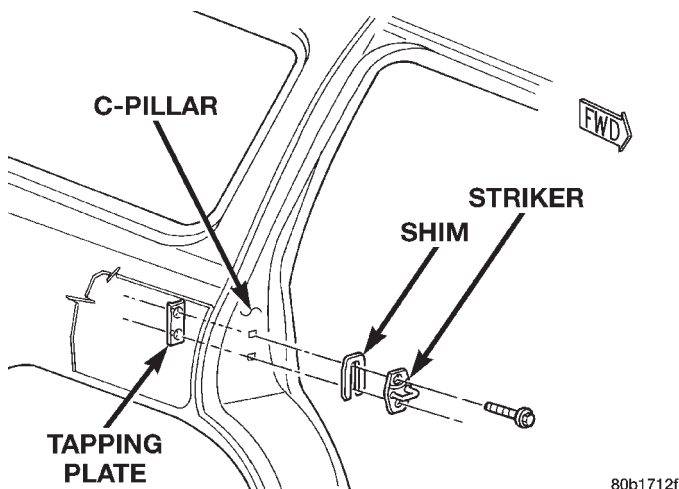

Fig. 52 Rear Door Latch Striker
- (2) Remove bolts attaching striker and shim to C-pillar (Fig. 52).
- (3) Separate striker from C-pillar.